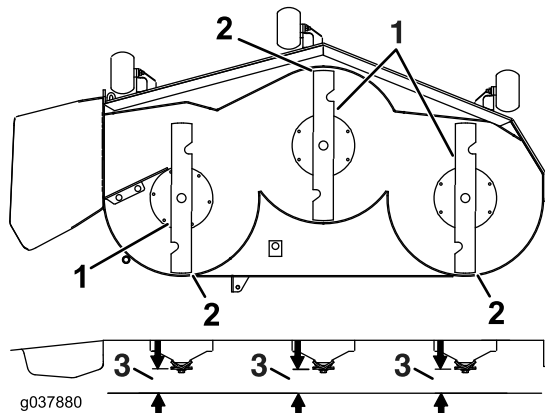

Figure 87
7. Check the front-to-rear blade level (Figure 87). Ensure the front blade tip is lower than the rear blade tip as shown in the block height and rake table. If adjustment is needed, continue with this procedure.